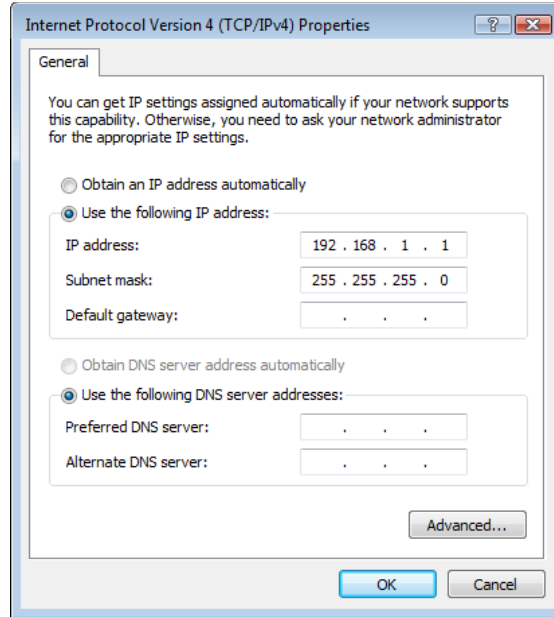

Fig. 5: IP Address Menu
6. When the **Internet Protocol (TCP/IP) Properties** dialog box appears, select **Use the following IP address** (Fig. 5).